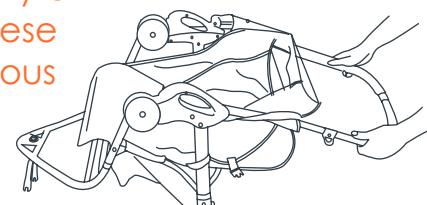

Fig. 1
1) • Lean the stroller backwards so that it rests on the handle and rear axle frame and the front wheel forks are pointing upward (Fig 1).